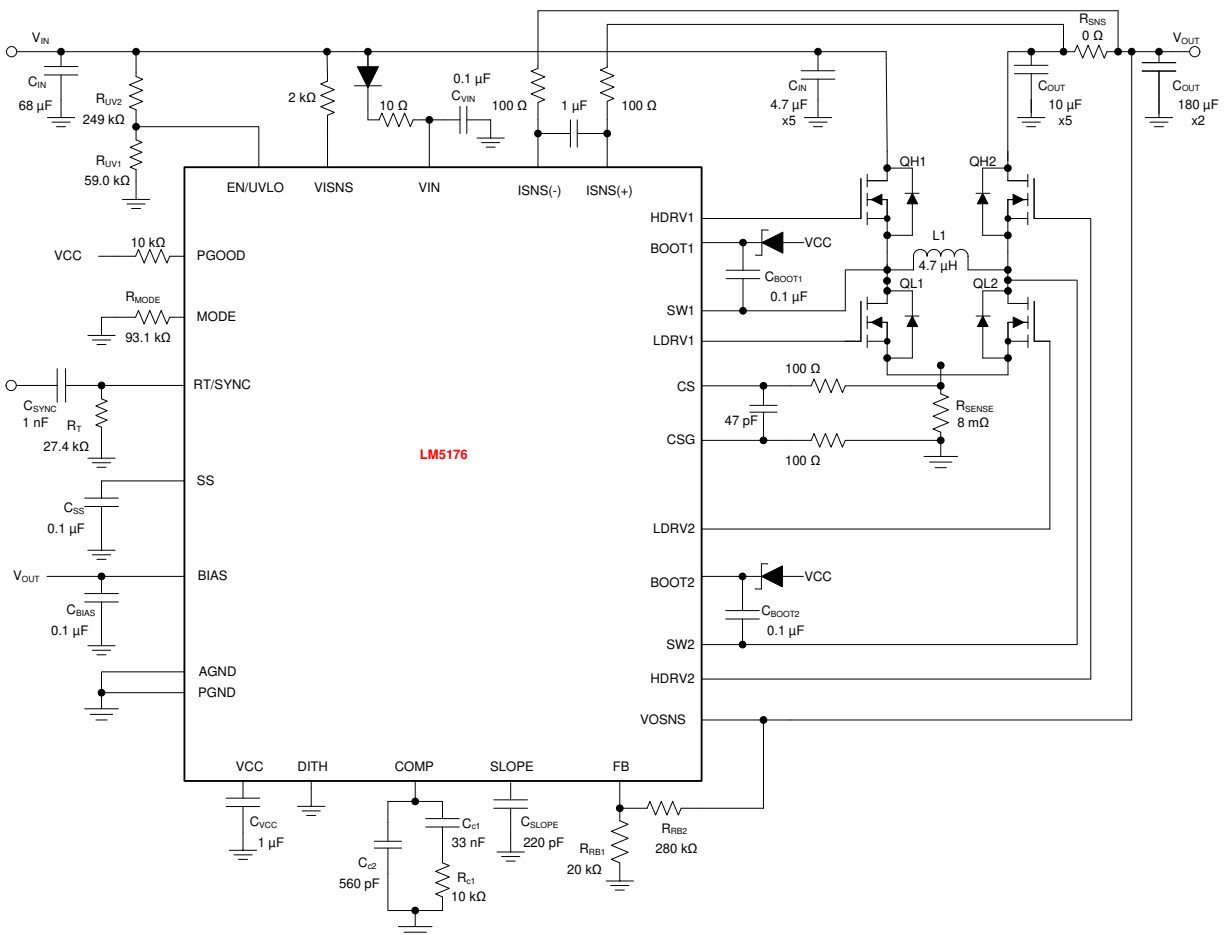

图 8-1. LM5176 Four-Switch Buck Boost Application Schematic
A filter network as shown in Figure 8-1 is often used across the ISNS(+) and ISNS(-) pins to filter the ripple in the average current sense signal.
For application where input voltage is higher than 40 V, a 2-k $\Omega$  resistor in series with the VISNS pin is required as shown in Figure 8-1.
The LM5176 has a gm error amplifier for loop compensation. The gm amplifier output (COMP) range is 0.3 V to 3 V. Connect an  $R_{C1}$ - $C_{C1}$  compensation network between COMP and ground for type II (PI) compensation (see 图 8-1). Another pole is usually added using  $C_{C2}$  to suppress higher frequency noise and switching frequency ripple.
The low-side gate drivers are powered from VCC and the high-side gate drivers HDRV1 and HDRV2 are powered from bootstrap capacitors  $C_{BOOT1}$  (between BOOT1 and SW1) and  $C_{BOOT2}$  (between BOOT2 and SW2), respectively. The  $C_{BOOT1}$  and  $C_{BOOT2}$  capacitors are charged through external Schottky diodes connected to the VCC pin as shown in 图 8-1.
Typically, a combination of ceramic and bulk capacitors is needed to provide low ESR and high ripple current capacity. The complete schematic in 图 8-1 shows a good starting point for  $C_{\text{OUT}}$  for typical applications.
The maximum RMS current occurs at  $D = 0.5$ , which gives  $I_{\text{CIN(RMS)}} = I_{\text{OUT}} / 2 = 3 \text{ A}$ . A combination of ceramic and bulk capacitors should be used to provide a short path for high di/dt current and to reduce the output voltage ripple. The complete schematic in 图 8-1 is a good starting point for  $C_{\text{IN}}$  for typical applications.
For some application circuits, it can be required to add a filter network to attenuate noise in the CS and CSG sense lines. See 图 8-1 for typical values. The filter resistance should not exceed  $100 \text{ }\Omega$ .